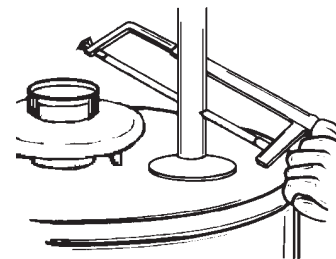

FIGURE 7.
6. If you have copper piping to the water heater, the two copper water pipes can be cut with a hacksaw approximately four inches away from where they connect to the water heater. This will avoid cutting off pipes too short. Additional cuts can be made later if necessary. Disconnect the temperature-pressure relief valve drain line. When the water heater is drained, disconnect the hose from the drain valve. Close the drain valve. The water heater is now completely disconnected and ready to be removed, see Figure 7.